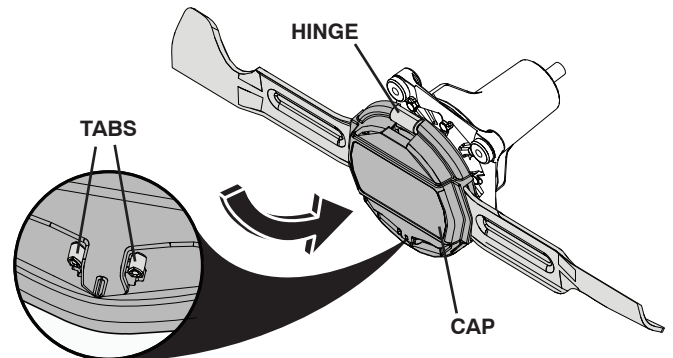

Fig. 35
- Reinstall cap. Hook cap onto hinge and rotate onto tabs. Press cap firmly into place, ensuring both tabs lock into cap. (See Fig. 35.)